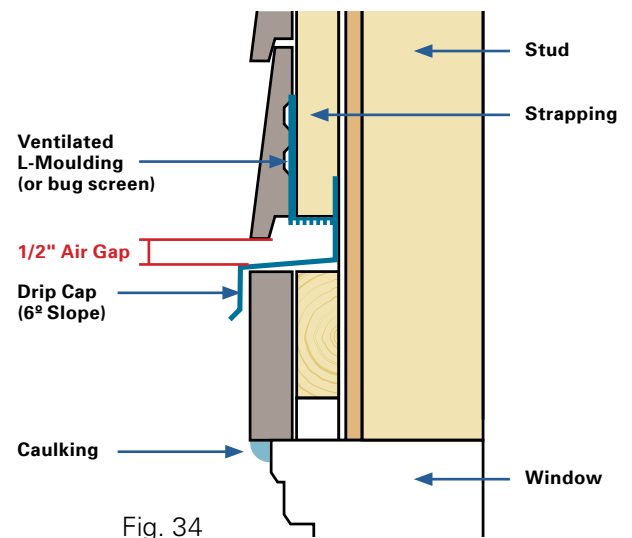

Fig. 34
- Install Fraser Ventilated L-Moulding (or bug screen) to allow air flow, drainage and prevent insects from nesting behind the siding. *(See Figure 34)*